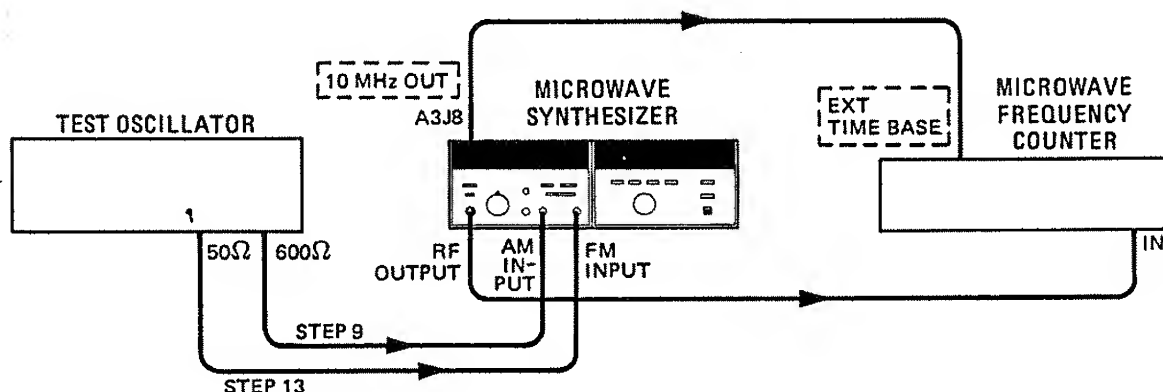

Figure 3-3. Operator's Frequency and Modulation Checks Test Setup
3. Press one at a time, the four FREQUENCY RESOLUTION keys **13**; the Frequency Resolution Light Bars **8** should light one at a time and remain lit. Rotate the TUNING control **14** clockwise and then counter-clockwise and note that the digits displayed in the FREQUENCY display **8** increase and then decrease in order as the TUNING control **14** is turned. Perform this step as each of the four FREQUENCY RESOLUTION keys **13** are pressed. The first key on the left produces resolution in 100 MHz steps, the second key 1 MHz steps, the third key 10 kHz steps, and the fourth key 1 kHz, 2 kHz, or 3 kHz steps, depending upon the frequency band. Pressing the fourth key first will cause all four of the Frequency Light Bars **8** to light. Pressing the HOLD **10** pushbutton causes the Light Bars **8** to extinguish and prevents the TUNING control **14** from changing the frequency displayed.
4. Connect a microwave frequency counter to the Synthesizer as shown in Figure 3-3.
9. Apply power to the test oscillator, set the frequency to 10 kHz and the output level to 0 Vrms. Connect the test setup as shown in Figure 3-3.